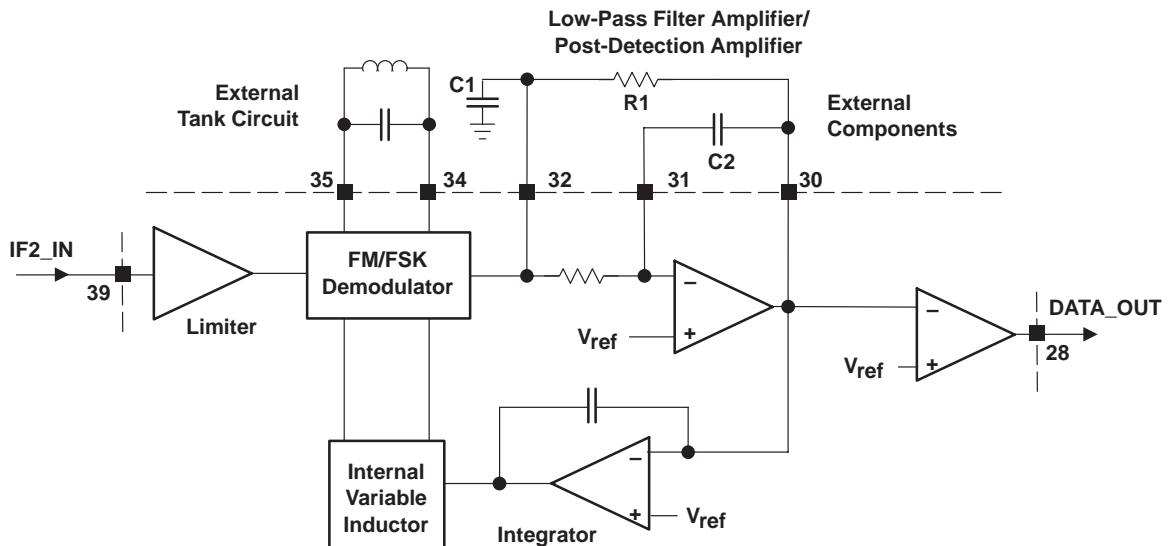

Figure 13. AFC Loop to Control the Data Slicer Decision Threshold
The demodulator is intended for analog (FM) and digital (FSK) frequency demodulation. It consists of a quadrature demodulator with an external LC tank circuit. A variable inductor, internal to the TRF6900, operates in parallel with the external tank circuit (see Figure 13), and is used to adjust the external tank circuit's resonant frequency. If the tolerances of the external demodulator tank circuit components can provide a maximum frequency error of less than 5%, then no additional adjustments are required. As long as the device is in the *learning mode*, the internal reactance automatically fine-adjusts the resonant frequency of the external LC tank circuit. Depending on the supply voltage, the tank circuit tuning range is approximately four times the discriminator 3-dB bandwidth.
The data slicer is fundamentally a comparator. The data slicer provides binary logic level signals, derived from the demodulated and low pass-filtered IF signal, that are able to drive external CMOS compatible inputs. The noninverting input is directly connected to the internal reference voltage, V_{ref}, and the inverting input is driven by the output of the low-pass filter amplifier/post-detection amplifier. The decision threshold of the data slicer is determined by the internal reference voltage, V_{ref}. The automatic frequency control (AFC) loop scheme for the TRF6900 is shown in Figure 13.